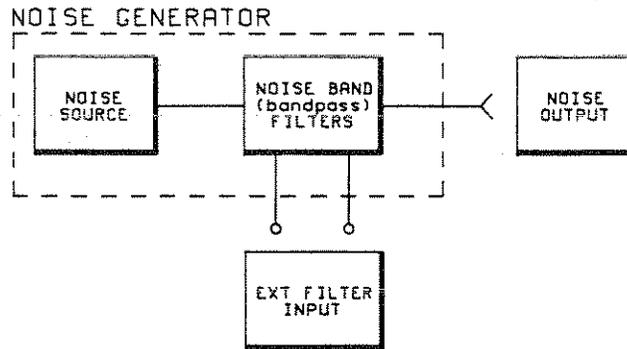

Figure 3-1 Noise Generator
The 3708A can be used as a stand alone Noise Generator. The Noise Generator is made up of a noise source and four internal NOISE BAND filters (see Figure 3-1). A Noise Power (N) output in the range 5.9dBm to -86.8dBm or Noise Density in dBm per Hz can be obtained. Provision is made for the connection of external filters via the EXT FILTER input for noise band requirements NOT covered by the NOISE BAND filters of the instrument.